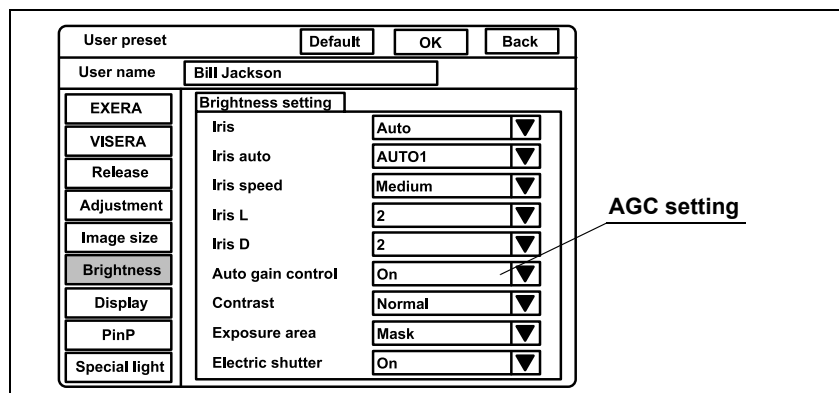

Figure 9.27
1. Click "▼" of "Auto gain control" (see Figure 9.27). The setting values ON and OFF appear in the pull-down menu.